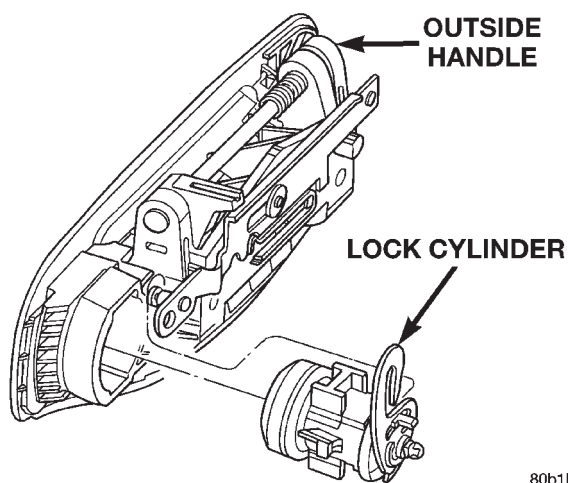

Fig. 74 Liftgate Lock Cylinder
- (1) Remove liftgate trim panels.
- (2) Remove clip retaining lock cylinder in outside handle.
- (3) Separate lock cylinder from handle (Fig. 74).
- (1) Position lock cylinder in outside handle (Fig. 74).
- (2) Install clip retaining lock cylinder in handle.
- (3) Install liftgate trim panels.